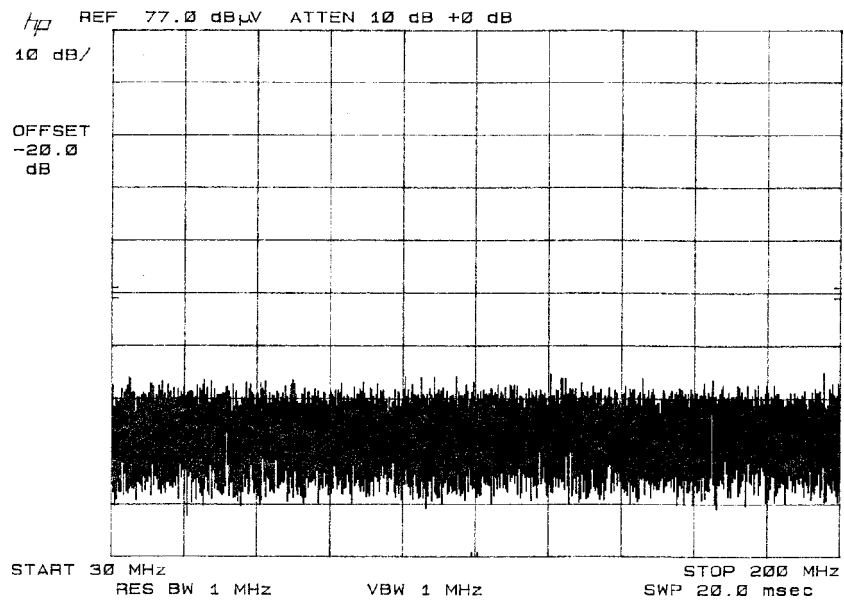

Figure 4-20. Equipment Under Test (EUT) Turned Off
- The conclusive way to distinguish between ambient and emitted signals is to turn off the EUT. If the signals disappear, they were being emitted by the EUT. See Figure 4-20.